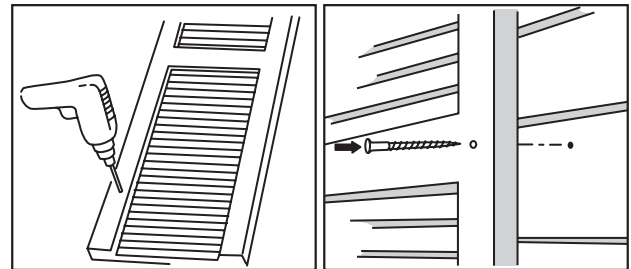

Figure 72
- Pre-drill holes through the shutters for attachment screws and mark the location of these holes on the siding (Figure 72).